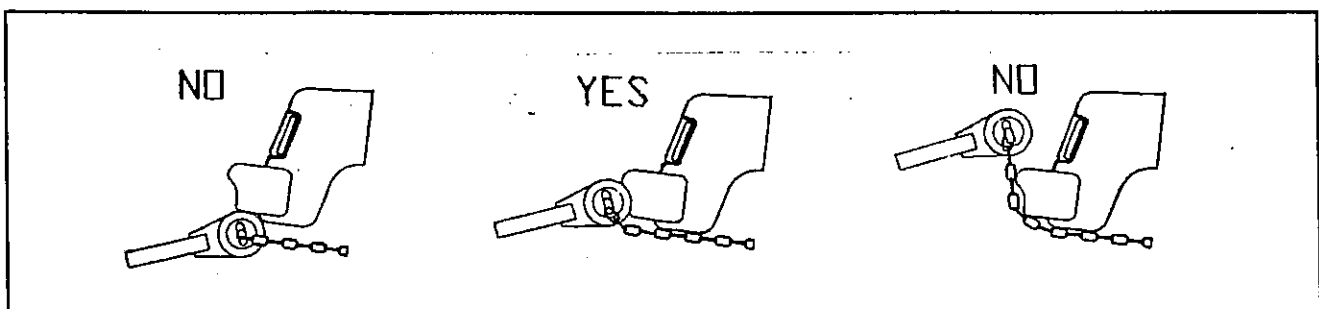

Figure 6-3 Examples of Proper and Improper Hookup
**6-5.10** Tilt the towbar up to provide proper ground clearance for the towed vehicle. If chain hookup is proper, the chains will carry the weight, and pull the rubber rings on the towbar solidly against the front edge of the vehicles bumper without letting the rubber rings above or below the bumper. (See FIG. 6-3)